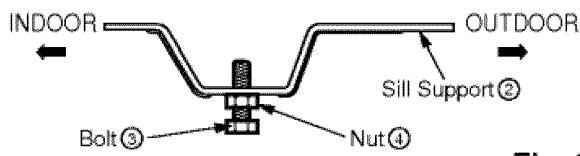

Fig. 3
- 3** Loosely assemble the Sill Support ② using the parts in Fig. 3.